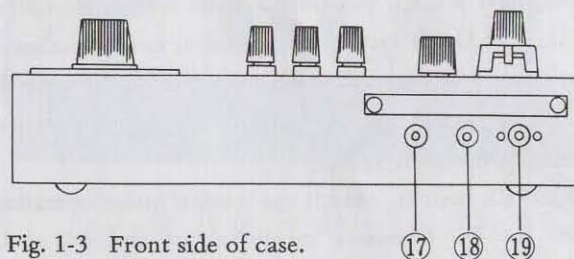

Fig. 1-3 Front side of case.
⑮ Cover fastener for the battery compartment.
⑯ Carrying handle.
C. Front Side of Case, Fig. 1-3